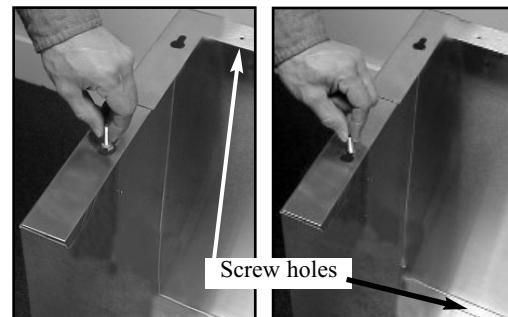

Fig. 4
2. Have someone help you pick up the grill and set it on the top of the cart, with the **rear** of the grill above the opening . Make sure the 4 bolt heads fall through the large opening of the key hole slots in the top of the cart. Slide the grill head **backward** so the bolts are resting in the small opening of the key hole slots. Tighten the bolts securely-be sure not to over tighten and strip the bolts. Next insert 2 hex head screws into grill bottom through cart & 2 hex head screws into the cart base. (See Fig. 4)